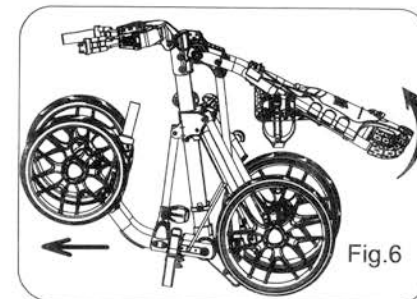

Fig.6
4. Unfolding the trolley and assemble the seat as Fig.6